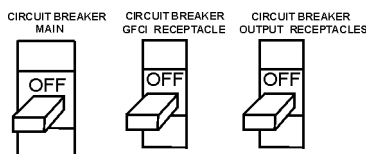

Figure 19. Main, GFCI and Load Circuit Breakers
1. Be sure to disconnect the electrical load and switch the **main**, **load** and **G.F.C.I.** circuit breakers (Figure 19) to the "OFF" position prior to starting the engine.
4. Remove the load from the UNV terminal strip (Figure 19).
10. Remove the load from the UNV terminal strip (Figure 19).